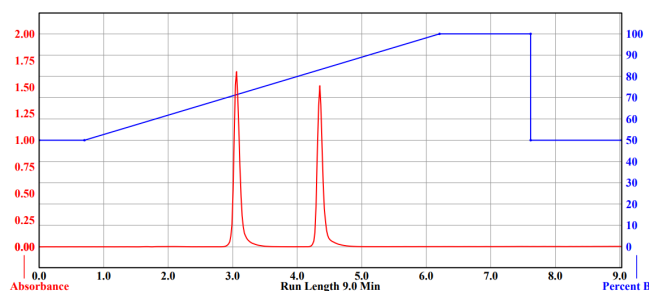

Figure 1: Water:Acetonitrile result
6. Typical results are shown in Figures 1 and 2